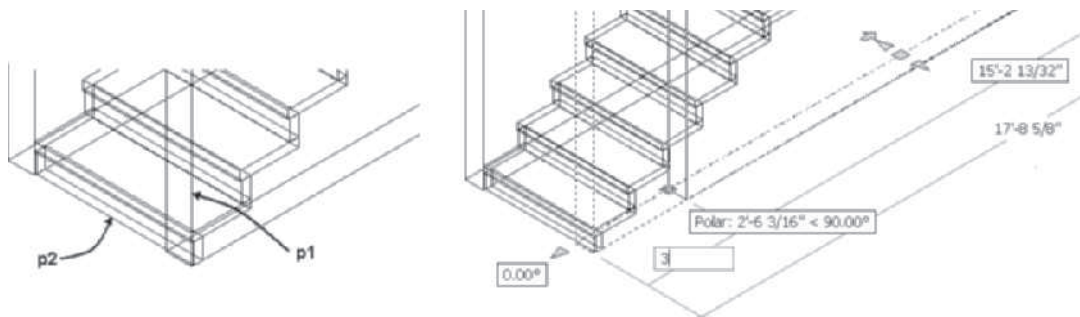

FIGURE 9.66 Grip of wall selected
15. The wall shown at **p1** in Figure 9.66 will be trimmed to the stair using the **RoofLine** command; therefore, the wall endpoint must be located within the limits of the stair. Select a wall and choose **Edit Reference In Place** from the Edit panel of the External Reference contextual tab. Verify that the **Automatically select all nested objects** option is selected. Click **OK** to dismiss the Reference Edit dialog box.
16. In this step, you will move the start point of the wall to within the stair. Select the wall at **p1** as shown in Figure 9.66 to display the grips of the wall. Select the wall start grip as shown at the right in Figure 9.66. Move the cursor to display Polar > tracking tip, press TAB if necessary to highlight, and modify the dynamic dimension as shown at the right in Figure 9.66. Type **3" [75]** in the workspace and press ENTER to move the wall end under the stair.
17. Select the wall at **p1** as shown in Figure 9.66 and choose **Modify Roof Line** from the Roof/Floor Line flyout menu in the Modify panel of the Wall contextual tab. Respond to the workspace prompts as shown below.
Select objects: 1 found (*Select the stair at p2 as shown in Figure 9.66.*)